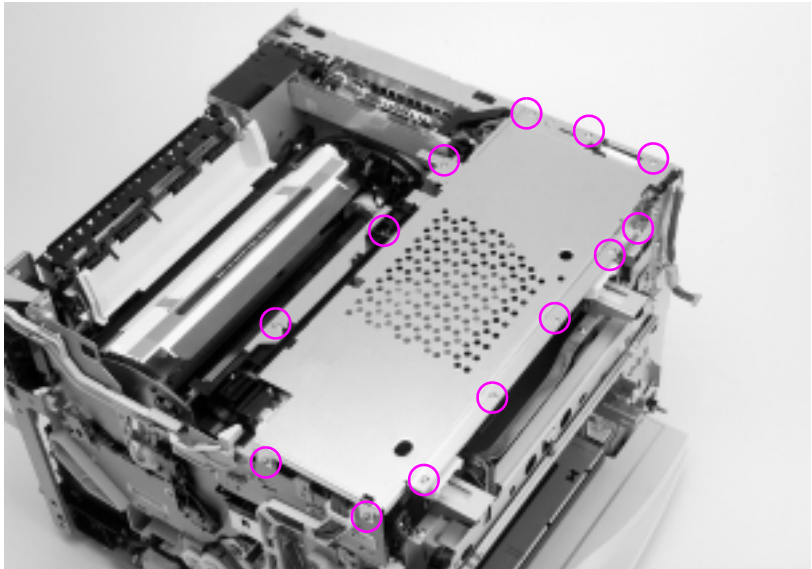

Figure 6-13 RFI removal and replacement
- 3 Remove the 13 screws shown in Figure 6-13.